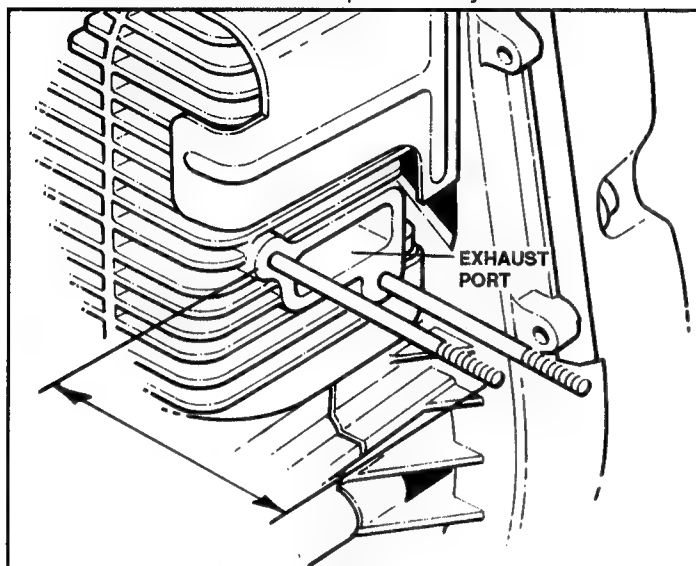

FIGURE 30
- (C.) After cleaning, turn the exhaust port down and blow any loose particles away with compressed air. Wear eye protection during this operation. See Figure 30.